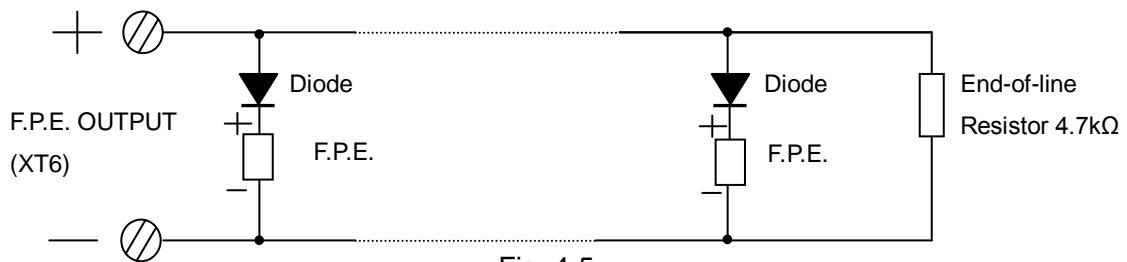

Fig. 4-5
F.P.E. OUTPUT is shown in Fig. 4-5.